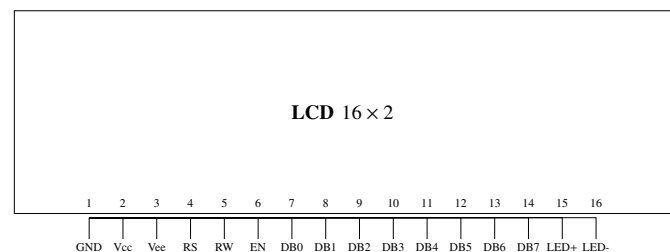

Fig. 8.1: LCD
2. Plug the LCD in Fig. 8.1 to the breadboard.